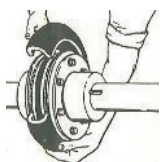

Figure 4
- Wrap flexible element around flanges as shown in Figure 4. Make sure beads of element are fully worked down upon the seats. To ensure proper seating, tap around the element's outside diameter with a small mallet until split is closed. Make sure element is evenly centered on the flanges.